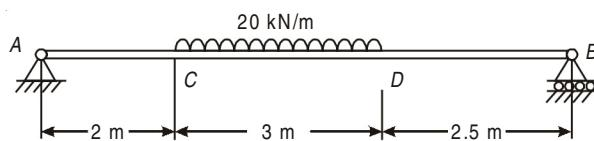

Fig. 4.33
- 4.7. A simply supported beam AB of span 7.5 m is loaded as shown in Fig. 4.33. Determine Deflections at points C and D .